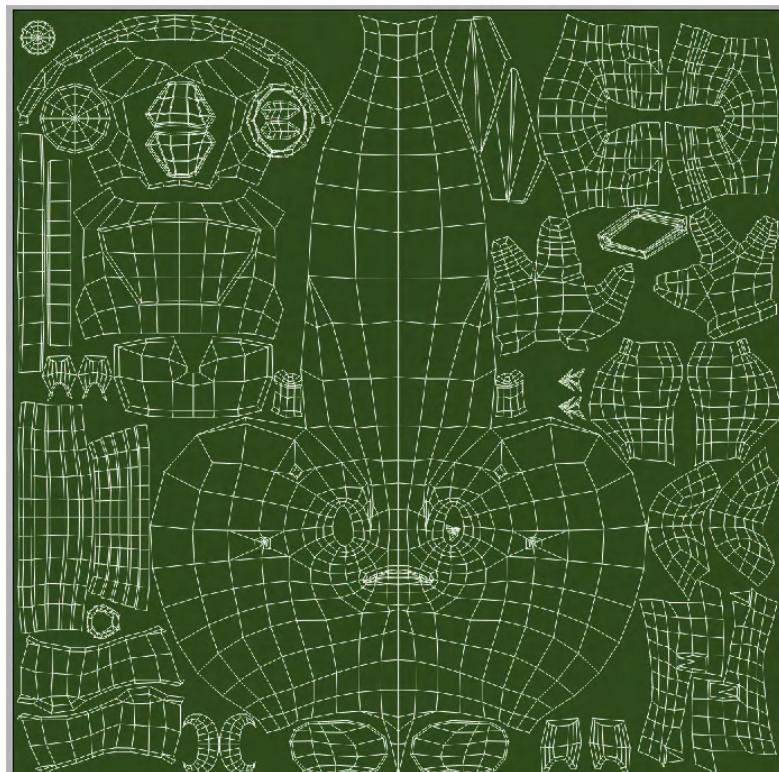

FIG. 6.35 Laying in the green basis of the skin.
Step 4: Lay in the base green for the screen. Do this by creating a new layer and then choose Edit > Fill and pick a nice alien-esque green (Fig. 6.35).